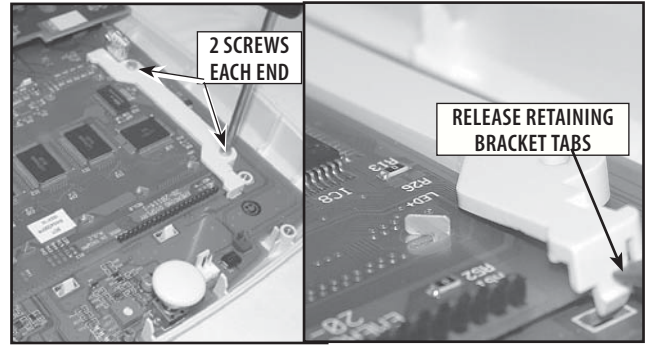

FIGURE 6.16
3. Using a # 1 Phillips screwdriver remove the 4 LCD retaining screws. **Refer to Figure 6.16.**
4. With an orange stick or flat edged piece of plastic gently push in and up on each end of the LCD retaining brackets to free the locking tabs from the Control Board. **Refer to Figure 6.16.**